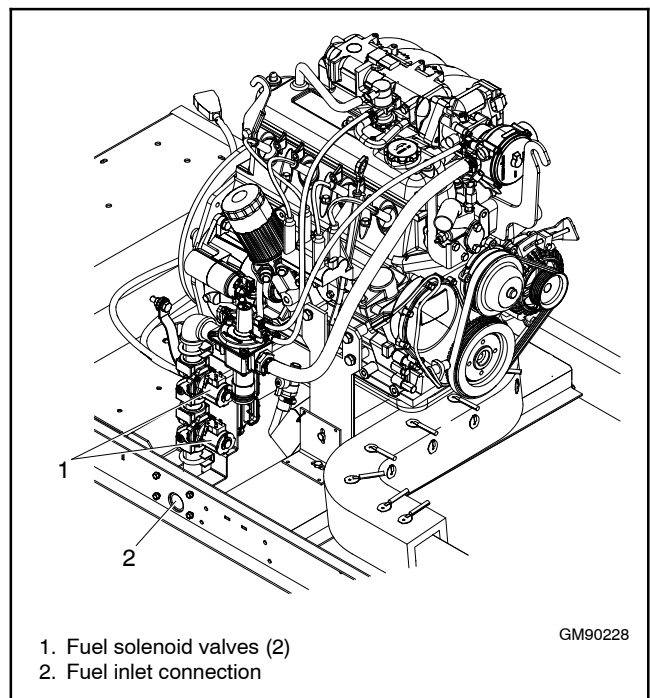

Figure 1-20 Fuel Supply Connection Location
- b. Use a section of flexible fuel line to connect the fuel supply to the 1 in. NPT fuel inlet connection on the generator set. See Figure 1-20 or the dimension drawing in Section 4 for the fuel inlet connection location.